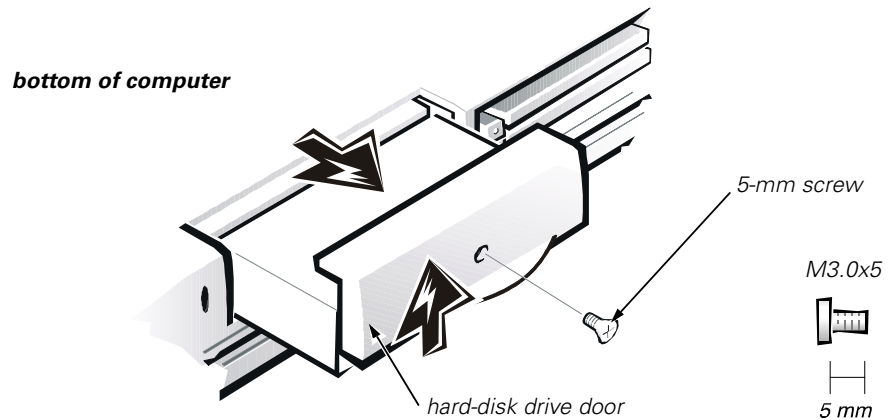

Figure 6. Hard-Disk Drive Assembly Removal
2. Turn the computer over, and remove the 5-mm screw from the center of the hard-disk drive door (see Figure 6).